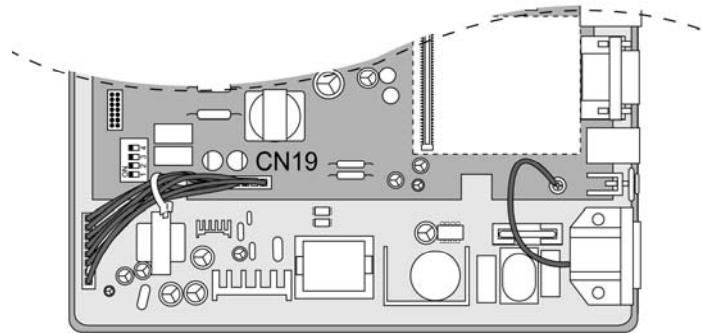

Figure 2.2.6a PSU Installation
1. To secure the wire of PSU as shown in Figure 2.2.6a, tie the wire with the cable tie provided.